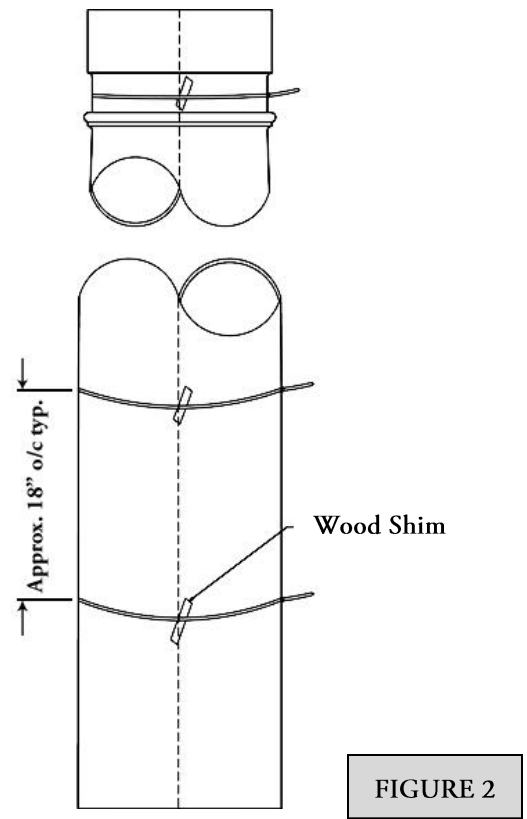

FIGURE 2
4. Align halves around the post or structural support and join together. Clamp and tighten uniformly until adhesive sets. (Alternatively, nylon reinforced tape wrapped tightly around the column can be used). The compression should be applied approximately every 18" along the length of the column shaft. Wipe off excess adhesive that may have squeezed out. [FIGURE 2]